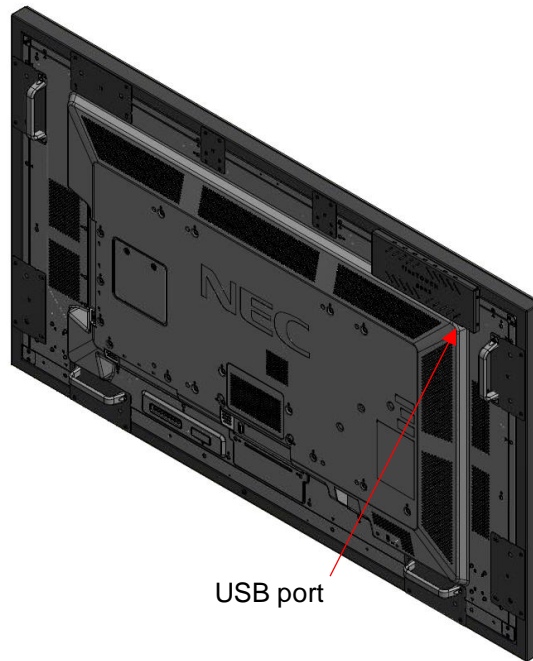

Figure 3: Position of USB port
2. To set up the touch function connect one end of the included USB cable A-male/A-male to the USB port (A-female) at the controller box located at the upper right corner (backside view, see Figure 3) of the fluxTOUCH gen3 overlay and connect the other end to your PC.